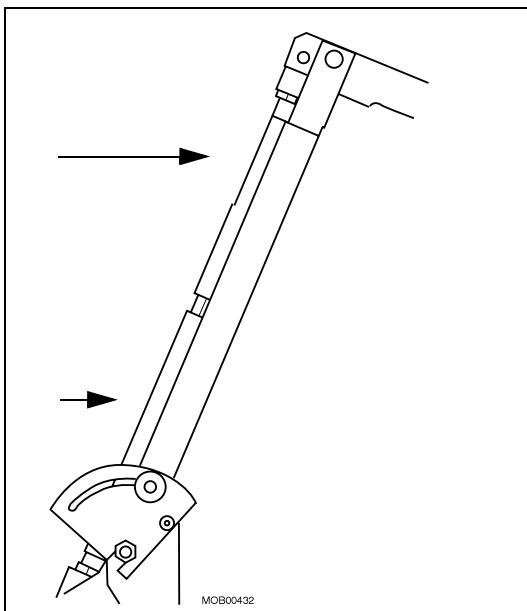

Fig. 43: Measuring rod
- Measure at two points that are as far apart as possible (ensure that the test points have the same diameter at the adjusting rod) (Fig. 43 / p. 54). The parallelism may not deviate > 0.6 mm.